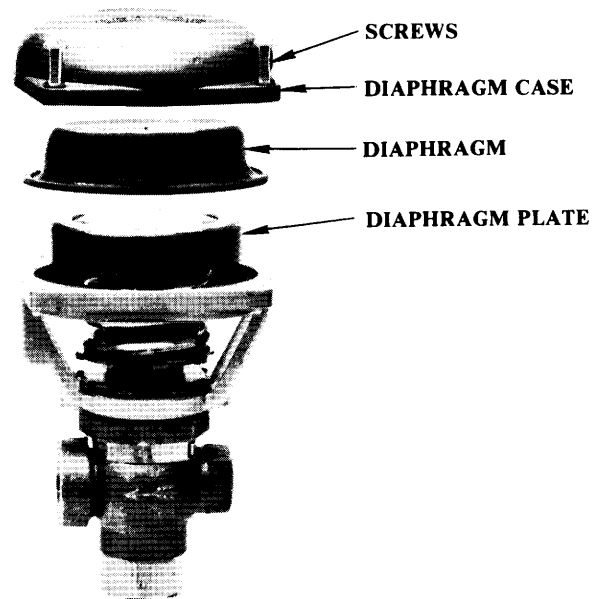

Figure 4 - REPLACEMENT OF DIAPHRAGM
B. REPLACEMENT OF DIAPHRAGM (Figure 4)